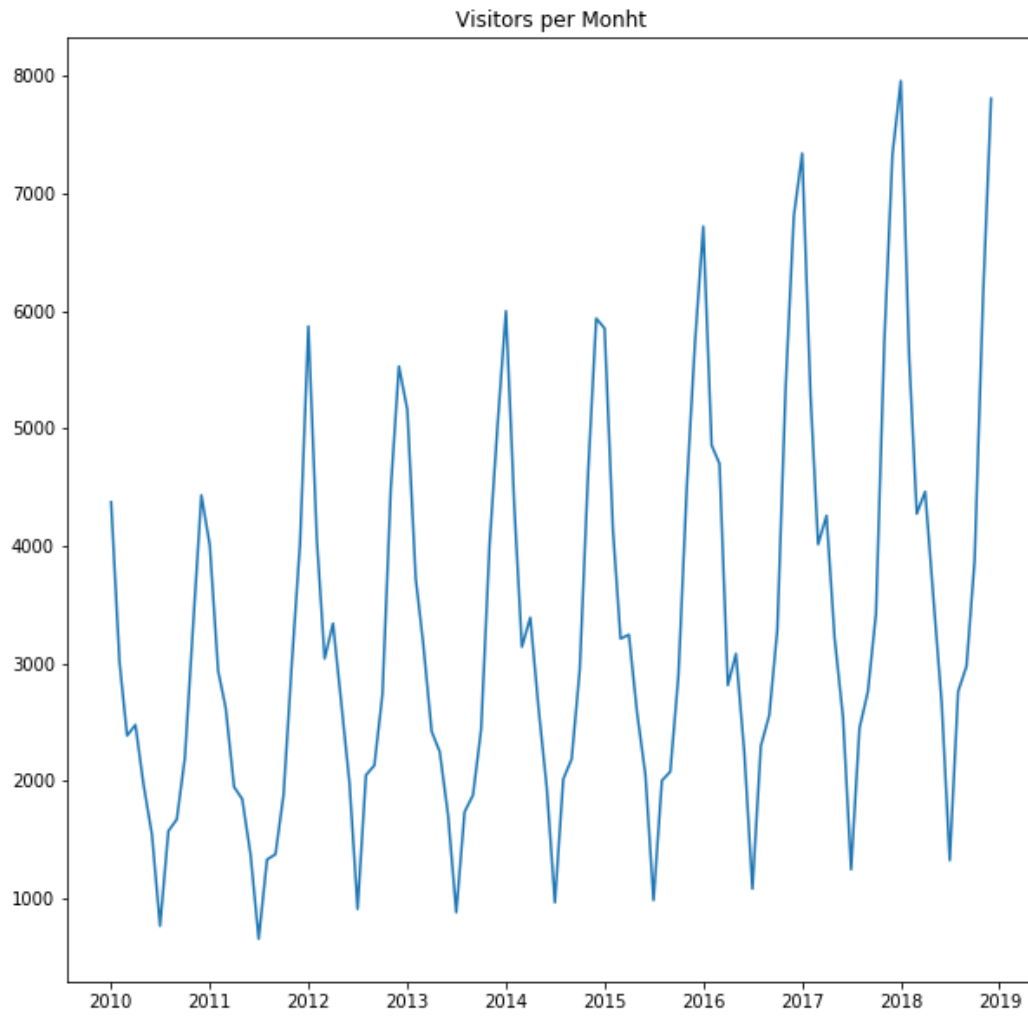

Figure 11: Visitors per Month
- Compare the number of visitors for a time period and/or showroom? Fig. 11
Figure 11 shows the trend of how many visitors come to all showrooms over time. It becomes evident, that winter is a lot better than summer.